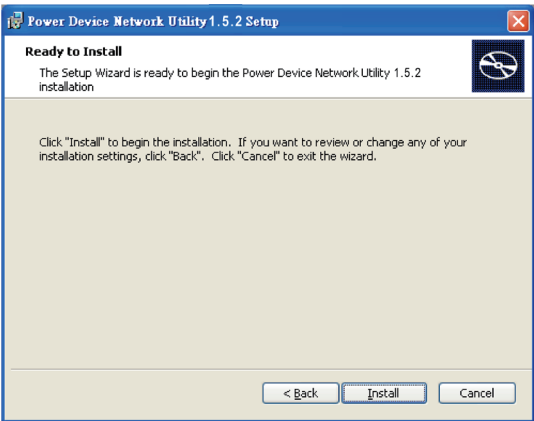

Figure 3
Step 4. Select **Install** to confirm the settings and install (Shown in Figure 3).